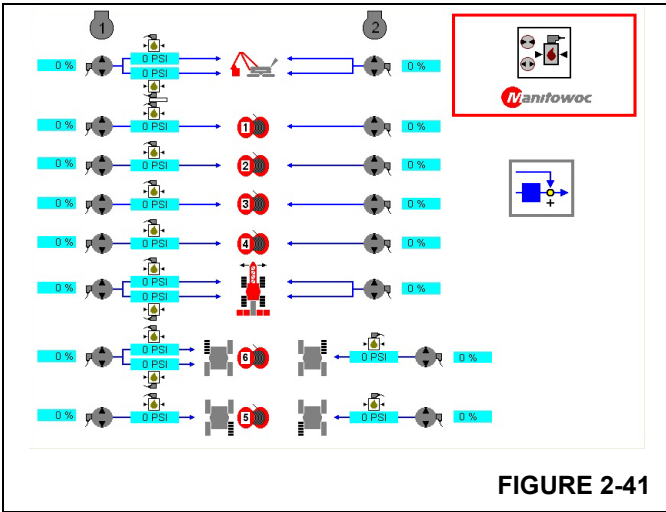

FIGURE 2-41
The Pressure Test and Calibration Screen (see Figure 2-41) is used to initiate and monitor the four hydraulic test and calibration procedures.
3. Next, press  to make the Pressure Test and Calibration Test screen appear (Figure 2-41).